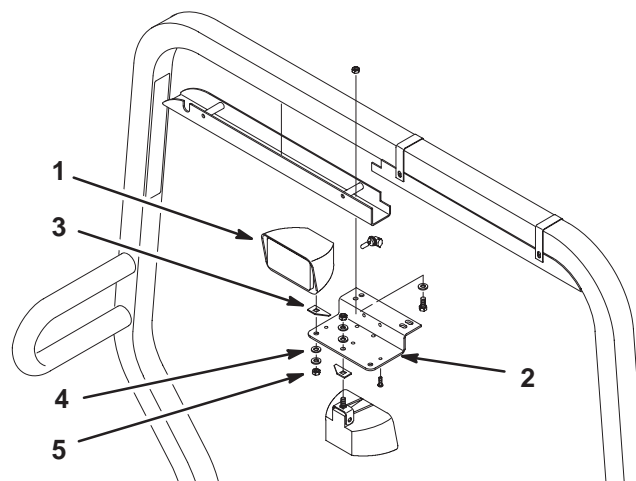

Figure 3
11. Using the locations shown in Figure 3, loosely mount each work light to the work light bracket with a stop tab, 2 Belleville washers, and a nut. Point the outside light forward (Fig. 3).
12. Mount the work light bracket to the end holes of the light channels with 2 capscrews (5/16 x 3/4 in.), flat washers, and locknuts (Fig. 3).